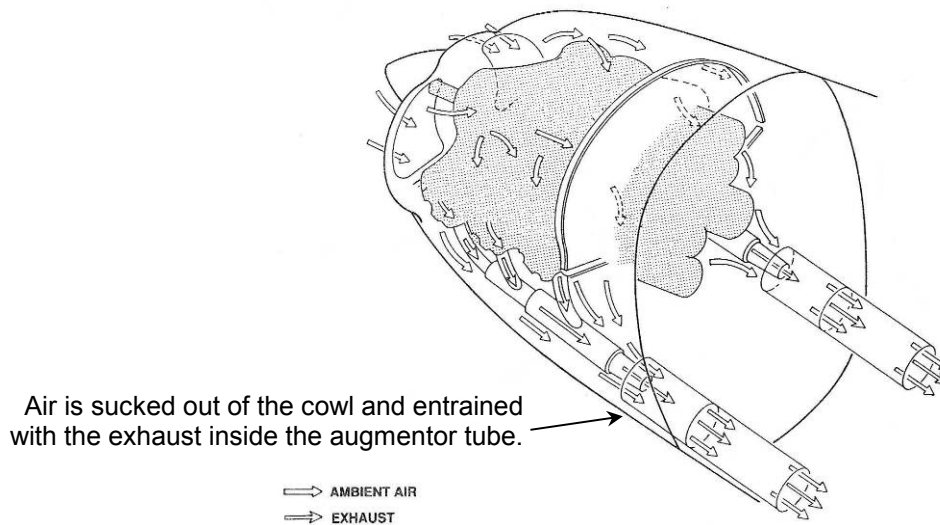

Figure 56. Augmentor Exhaust System
- Augmentor type exhausts (Figure 56) can also be used to suck air out of the cowlings.
- For amphibian or seaplane aircraft using a pusher engine installation the methods outlined above can use the propeller to suck air out of the cowls, but ultimately the effect is limited and can conflict with cooling requirements in other modes of flight. For these installations some form of active venting for the cowls – such as flaps, fans or an augmentor-type exhaust system (See Figure 56) may be required.